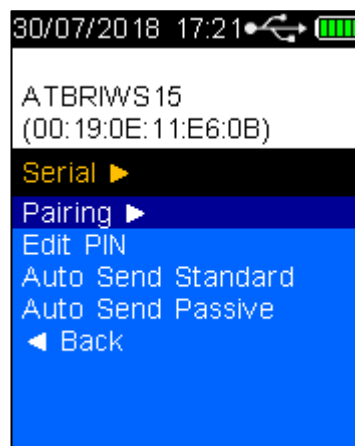

Figure 46 - Pairing Selected
- Select 'Pairing' on HH4 to search for Bluetooth devices (Refer to Figure 46).